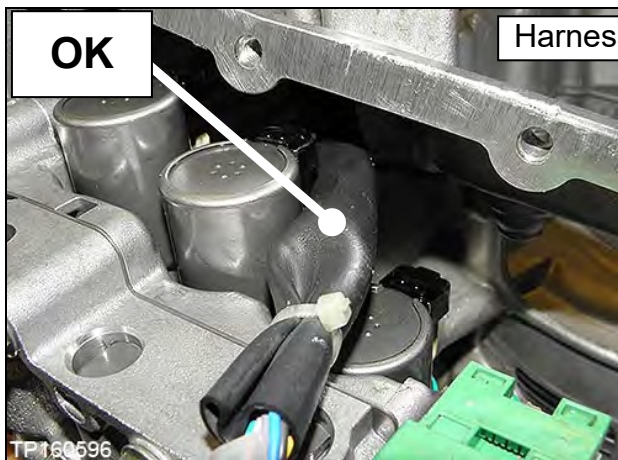

Figure 91
- Make sure the wiring harness does not get pinched (see Figures 91 and 92 for correct routing).
- The two (2) 25 mm bolts are installed WITHOUT the oil strainer bracket.
- For CVT case side, use Seal Installer J-50393 and Driver handle J-8092 (see Figure 91).